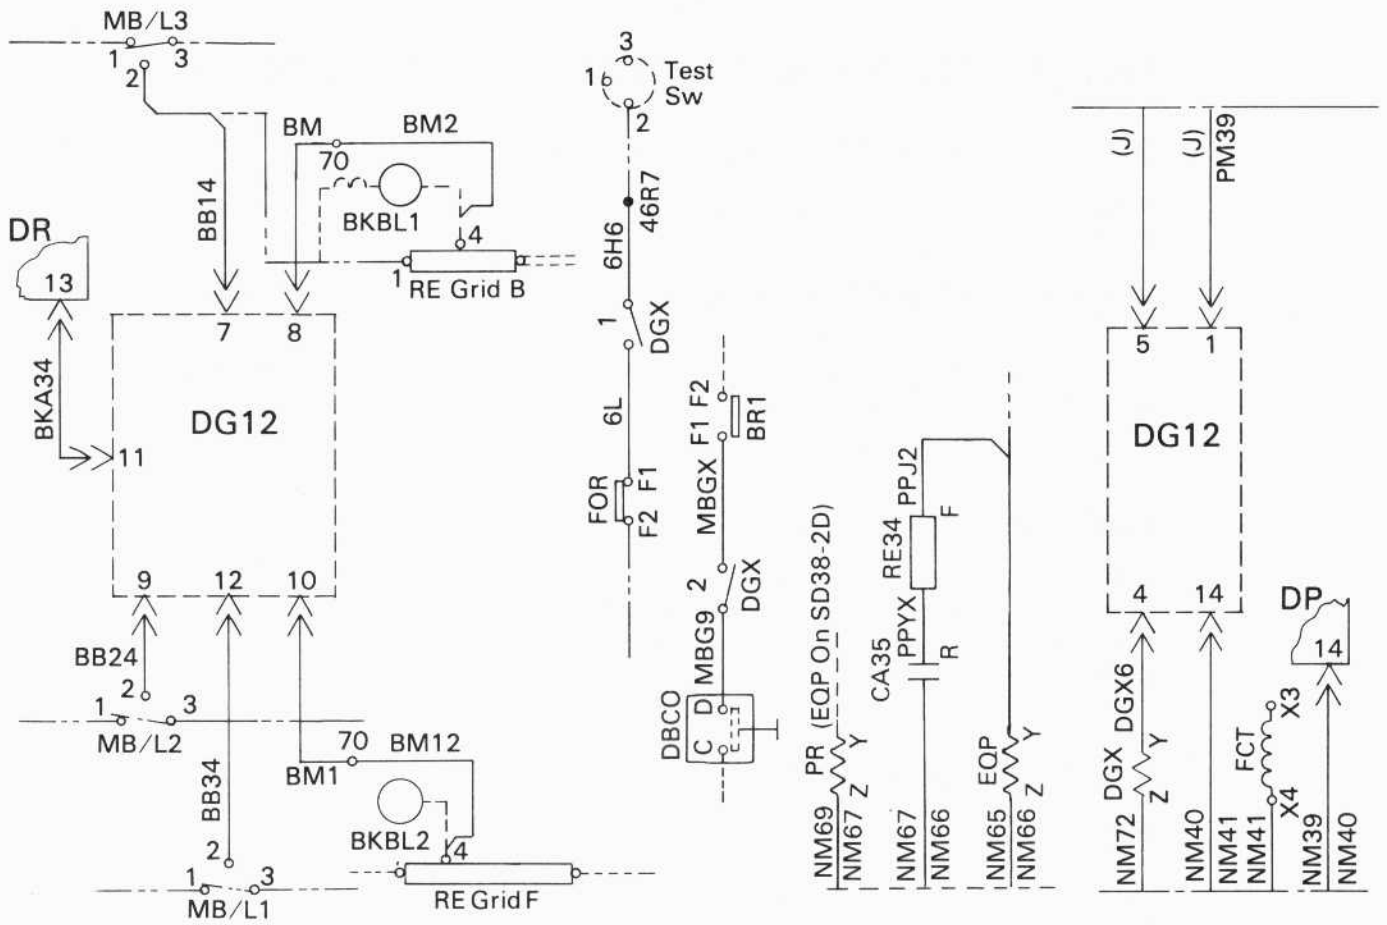

Fig.2 - Wiring Instructions For DG12 Application To SD-2 Locomotives With Basic Dynamic Brakes
1. Refer to Fig. 2 for modifying SD38-2D, SD40-2D, SD45-2D, F40C-D, and SDP40F-2D model locomotives.